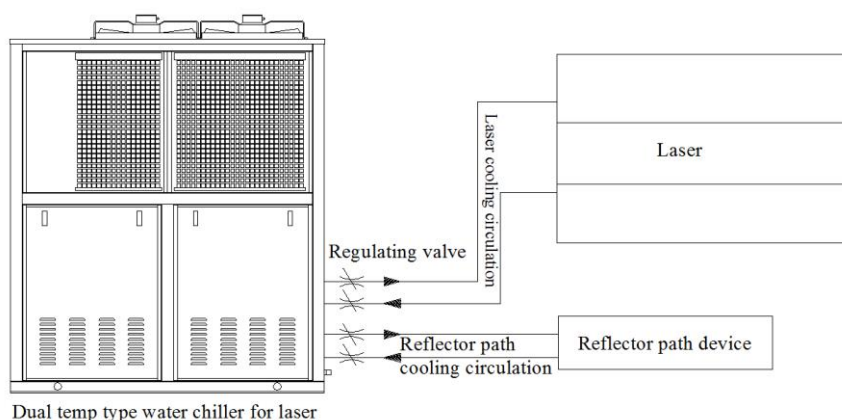

Fig. 5
- ♦ The chiller can be connected to the machine tool in accordance with Fig. 5.